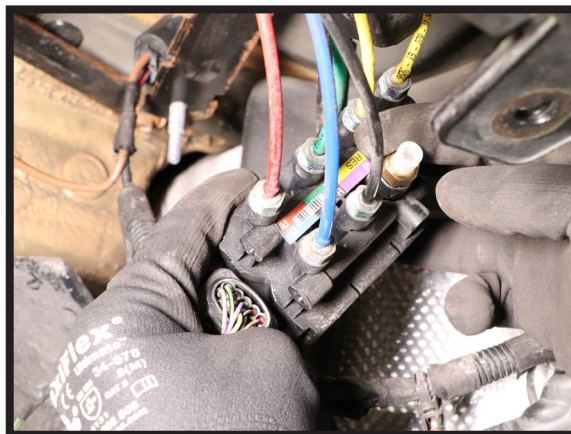

FIGURE 26
2. INSTALL THE PROVIDED VOSS AIR FITTING ONTO THE VALVE BLOCK. (FIGURE 26)